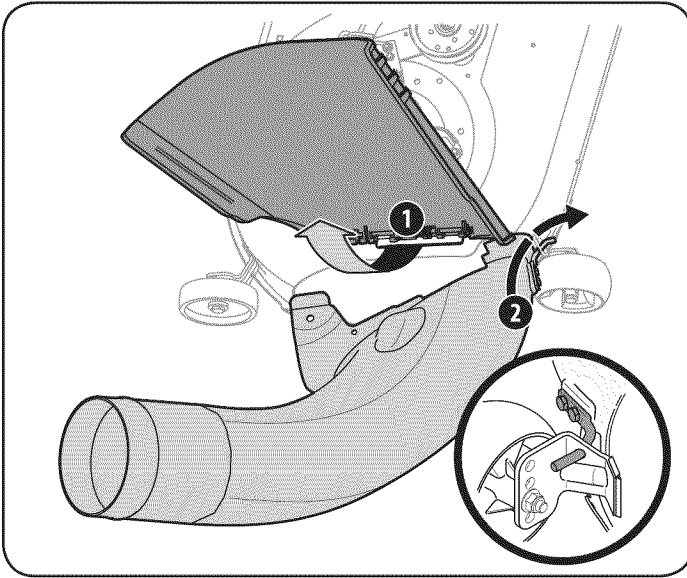

Figure 16
1. With the tractor's discharge chute raised up and held open (1), install the chute elbow by placing the chute elbow mounting rod into the hole provided in either your deck wheel bracket or chute mounting tab (2), as seen in Figure 16.